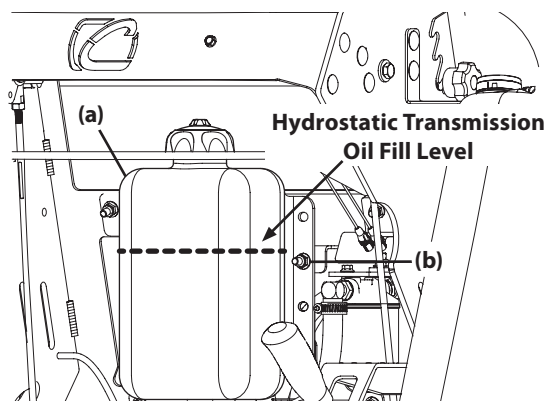

Figure 22
- Ensure the hydrostatic transmission oil reservoir level is just above the upper reservoir mounting bolts (b) as shown in Figure 22.
7. Add hydrostatic transmission oil until the level is even with the upper reservoir mounting bolts. See Figure 22.